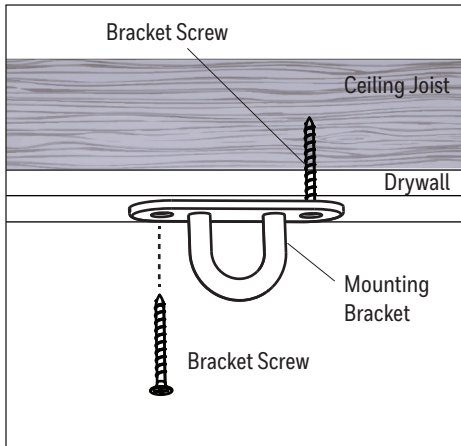

Figure 1.1
1. Use a Phillips screwdriver and the two bracket screws to secure the mounting bracket to a ceiling joist (Figure 1.1). **Note:** If necessary, use a stud finder and a drill with 15/64" drill bit to create pilot holes for the bracket screws. Stud finder, Phillips screwdriver, drill, and drill bit are not included.